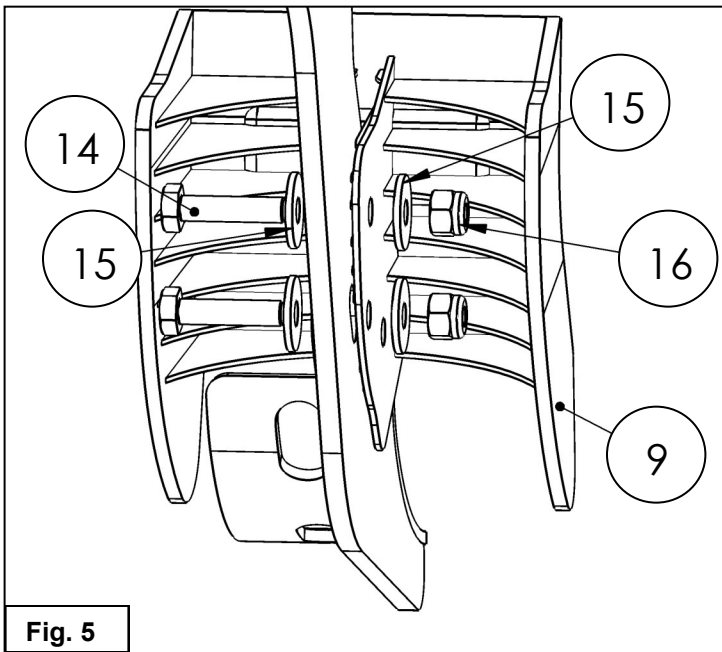

Fig. 5
5. Use the supplied M6 Hardware to attach the Bracket Covers (item 9) to the Mounting Brackets (items 3-8). See **Figure 5**.